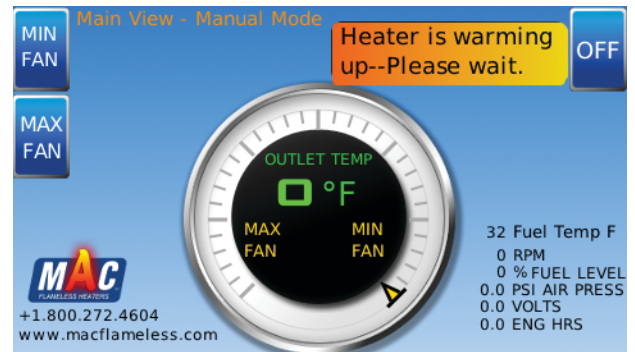

Figure 3-4. Heater Warming
5. When the coolant temperature reaches 140°F (60°C), engine warming is complete and the heater automatically begins warming up. The screen displays "Heater is warming up--Please wait" (**Figure 3-4**).